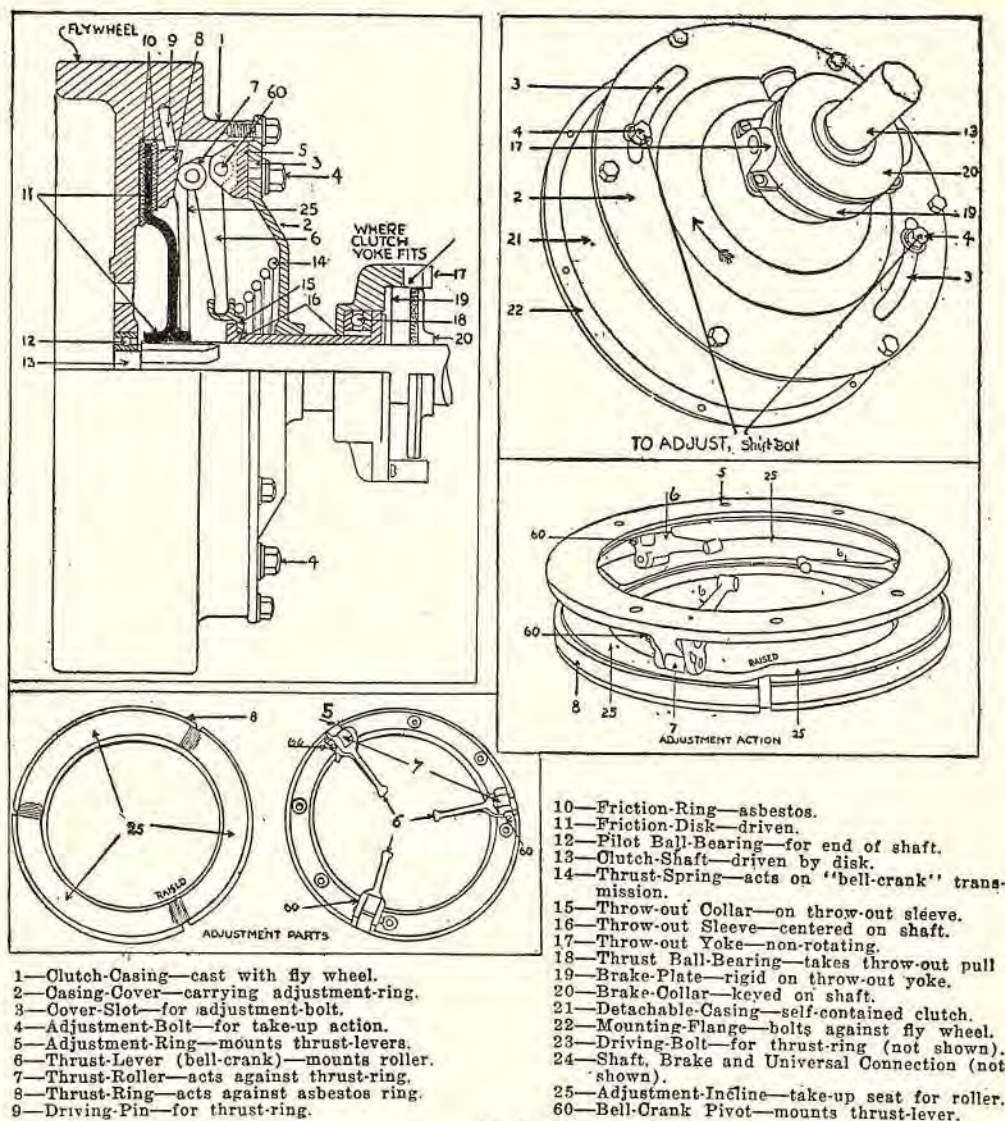
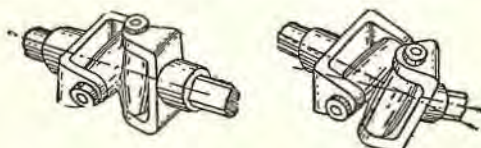

Fig. 8
Fig. 9.
An example of a single-plate clutch is described in detail in the following matter. In this type, the clutch effect is created by wedging the plate. The type which will now be described is the Borg and Beck make, shown in Fig. 8, next page.
A universal joint is a flexible connection between two shafts, which permits one to drive the other, although they may not be in line. Refer to Figs. 9, 10, and 11 and study the principle. Universal joints are usually placed forward and rear of the drive shaft. They are also termed "cardan joints."
The planetary type used on the Ford (Fig. 8), is explained in the Ford Instruction. The friction-disk type (Fig. 9) is now seldom used.
Fig. 8 is the Ford planetary transmission location, explained under Ford Instructions.
Fig. 9 is a friction-disk type of transmission, used on cars of the early period. The drive disk (DR) connected to the drive shaft transmits the power through the driven disk (DN) to the jack shaft, thence by sprockets and chain to the dead rear axle.